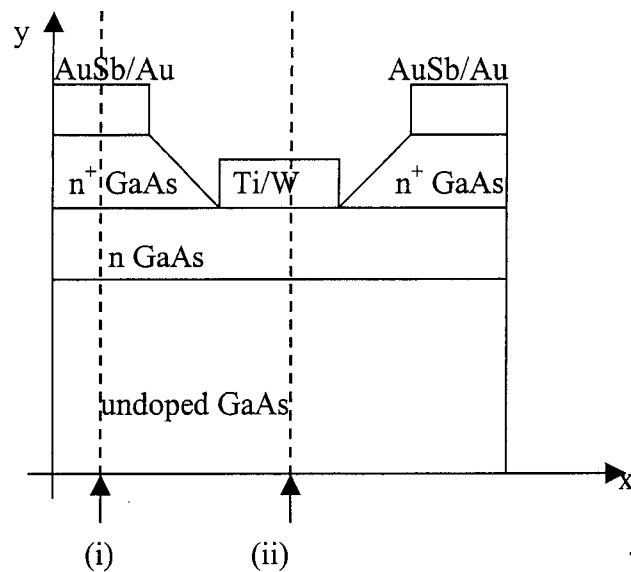

Figure 1.1: Cross section of a device.
1. Consider Figure 1.1, where a processed device is shown.
- Give the name of the device presented in Figure 1.1. [2]